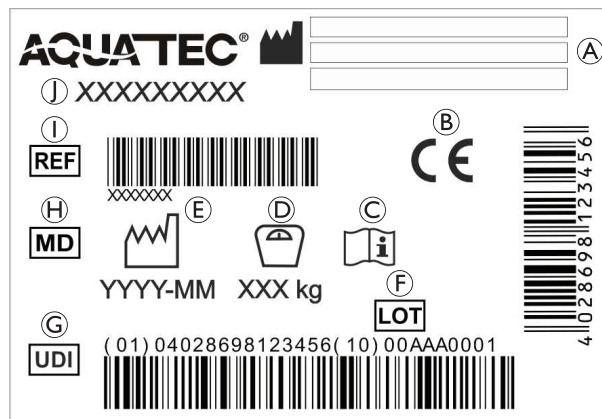

Fig. 2
2.2 Labels and Symbols on the Product (Fig. 2)